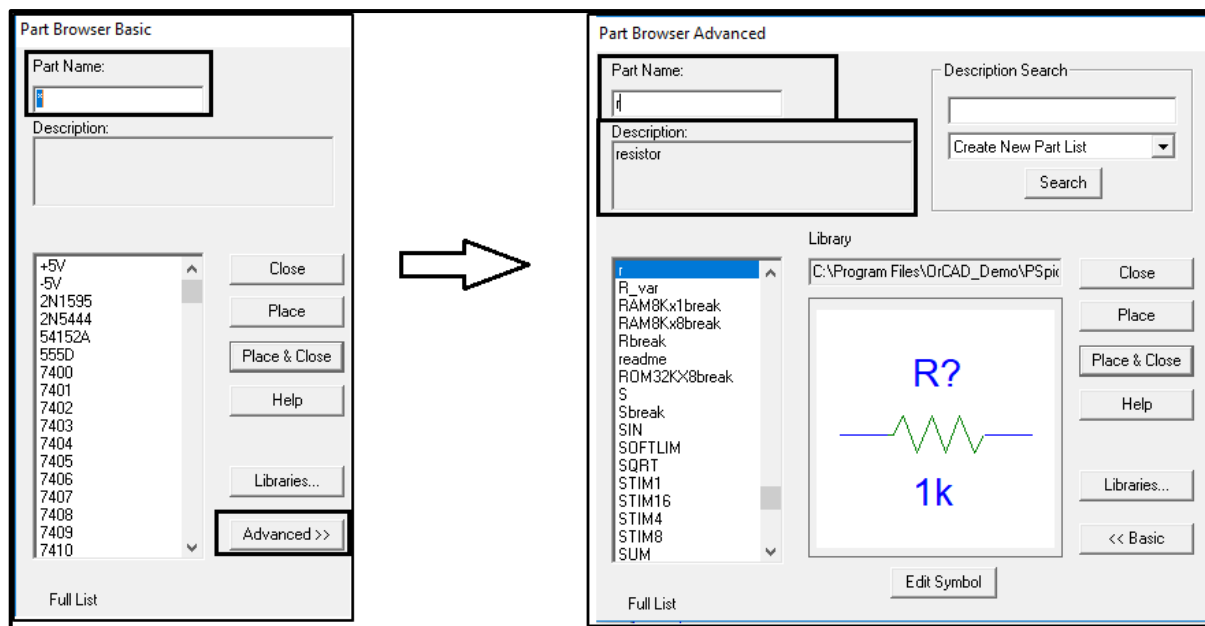

Figure.5
- When you click on get new part icon, you will see the window shown on the left side in figure.5. This is a list of all components available in the program. Click on “advanced” so you can see the picture of part you want to add as shown on the right side in figure.5.